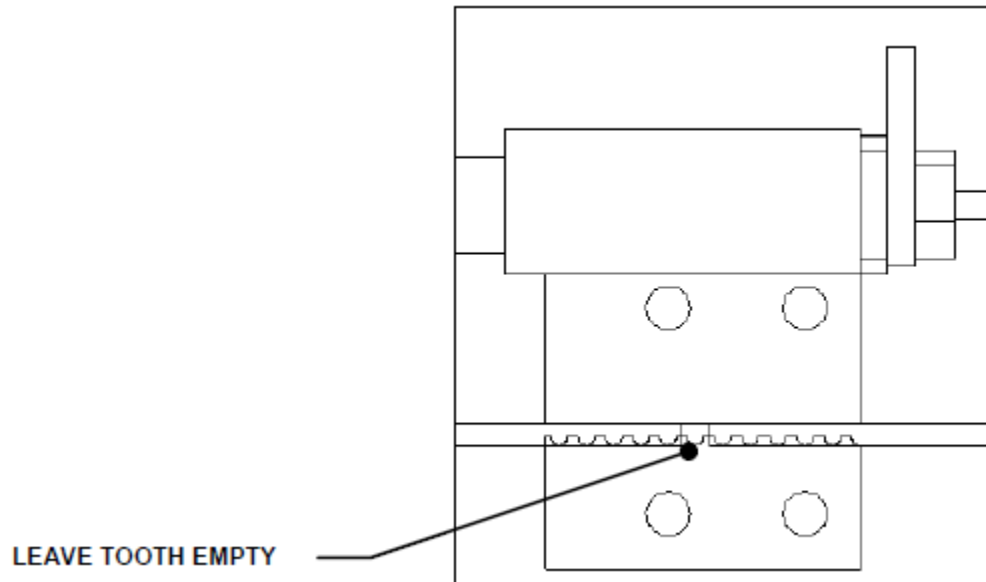

Figure U-32: Inserting Timing Belt
1. Cut a piece of Timing Belt GT2 (366mm long = 183 teeth) and slide it into the Spigot Support in a way that 5 teeth on each end of the belt are trapped into the Spigot Support vanes (6th tooth remains empty) as shown in Figure U-32.